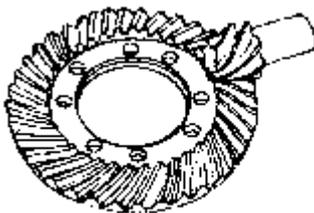

Figure 11
- 9.4 Identify the various types of final drive shown in **figures 11, 12 and 13** below. (3marks)